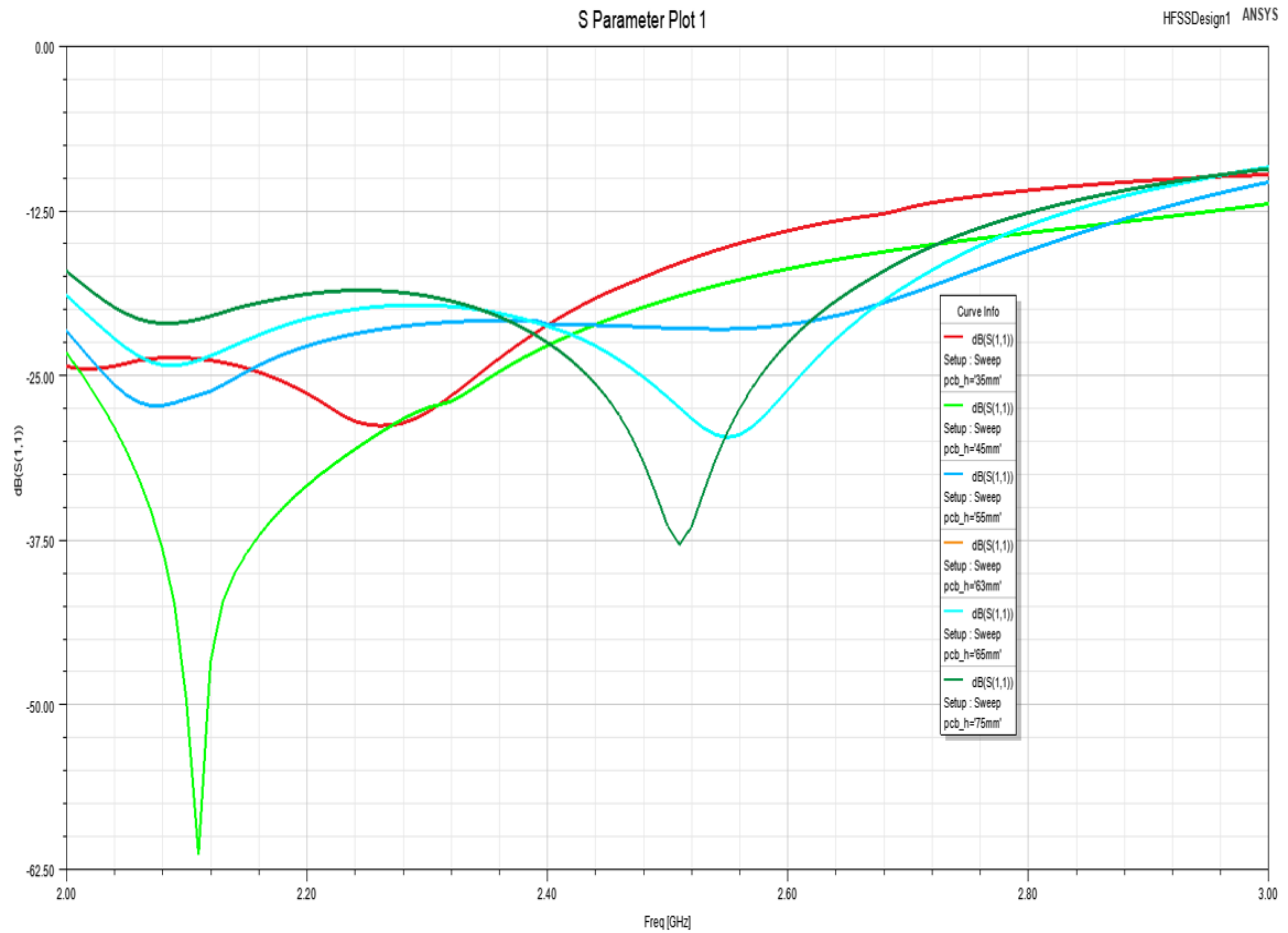

Figure 17. pcb_h Parameter Plot
- pcb_h Parameter Plot (Figure 17)